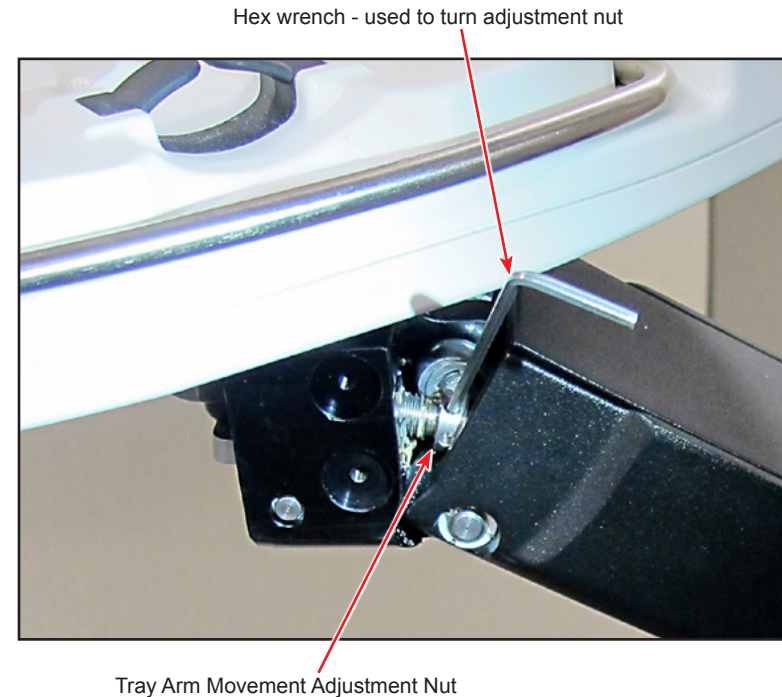

Figure 3-20 Adjusting Tray Arm Movement
- 23.7.1 If Tray Arm is not moving properly when handles are pressed (unlocked), turn the adjustment nut backwards or forwards until it does move properly (see Figure 3-20). Ensure Tray Arm locks in position when handles are released and unlocks when handles are pressed.